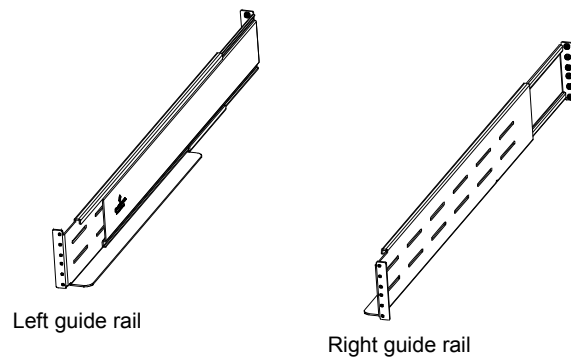

Figure 2-3 Appearance of guide rail
- 1) Take out the guide rails (one left guide rail and one right guide rail), guide rail screws and panel screws from the package, distinguish the left guide rail and right guide rail according to Figure 2-3, and confirm its retractable function respectively.